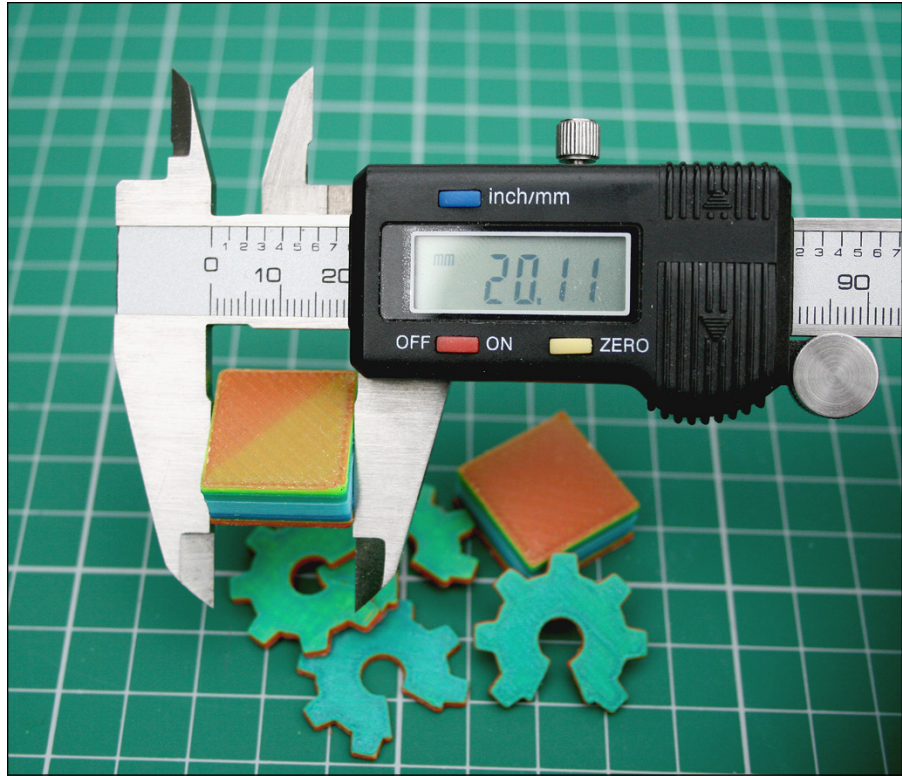

FIGURE 15-27:
8. When your cube is finished, confirm that it measures as close as possible to 20mm and 10mm high. (See Figure 15-27.)